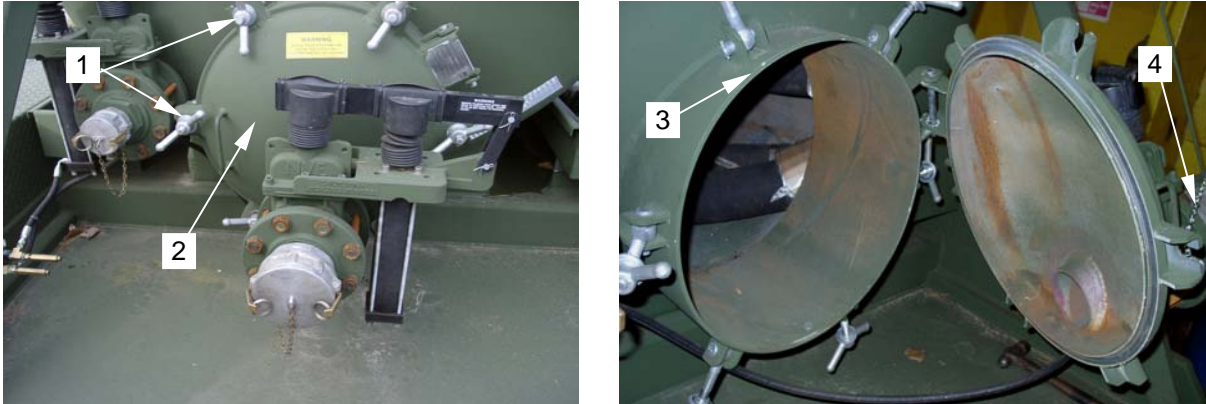

Figure 1. Opening Manway to Change Gasket
2. Loosen but do not remove six wing nut assemblies (**figure 1, item 1**) on the rear manway (**figure 1, item 2**).
3. Work manway (**figure 1, item 2**) free of the rim (**figure 1, item 3**).
4. When manway is free of the rim, move wing nut assemblies off the cover (**figure 1, item 1**). Swing it open and secure with chain (**figure 1, item 4**).